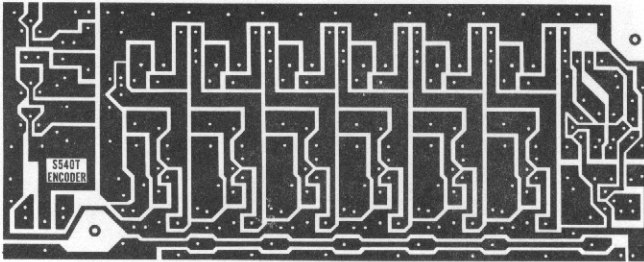

Figure 12. Logic Board Lands
- 128. Solder one end of the 2-3/4" yellow wire into hole at position (N) on logic board.
- 129. Likewise, solder the 1/8" stripped end of the 2-3/8" black wire at position (O), the 1-3/4" black wire at position (P), the 5-1/4" red wire at position (Q), and the 1-3/4" red wire at position (R) on board.
- 130. Clip protruding leads from bottom of board then use lacquer thinner to remove solder rosin. Inspect carefully, under magnification, for possible shorts between board lands. Compare with figure 12. Put logic board aside until final installation.